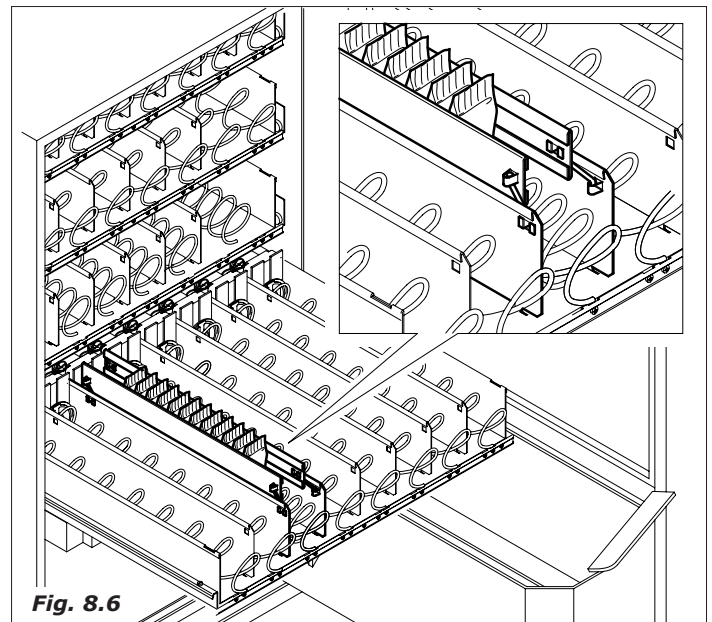

Fig. 8.6
- it is possible to introduce guides parallel to the spirals for narrow and high products (see fig.8.6) in order to reduce the space between the product and the walls of the section.